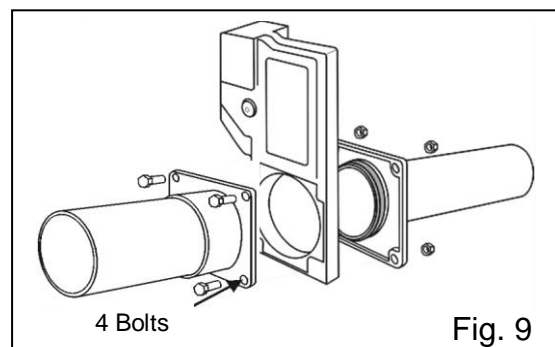

Fig. 9
Step 10: Ref **Fig. 9:** Install four bolts and nuts and **hand tighten till the valve is seated snug with no gap between the body and the flanges.** Use 7/16" Sockets/ spanners - **a Torque wrench is highly recommended.** Torque from **nuts side only**, ¼ turn at a time, in a crisscross pattern. Progressively increase Torque to **10 Inch Lbs.**